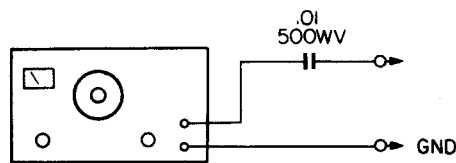

Fig. 15
- As shown in Fig. 15 SSG must be used with a ceramic capacitor of  $0.01\mu F$  (500WV).